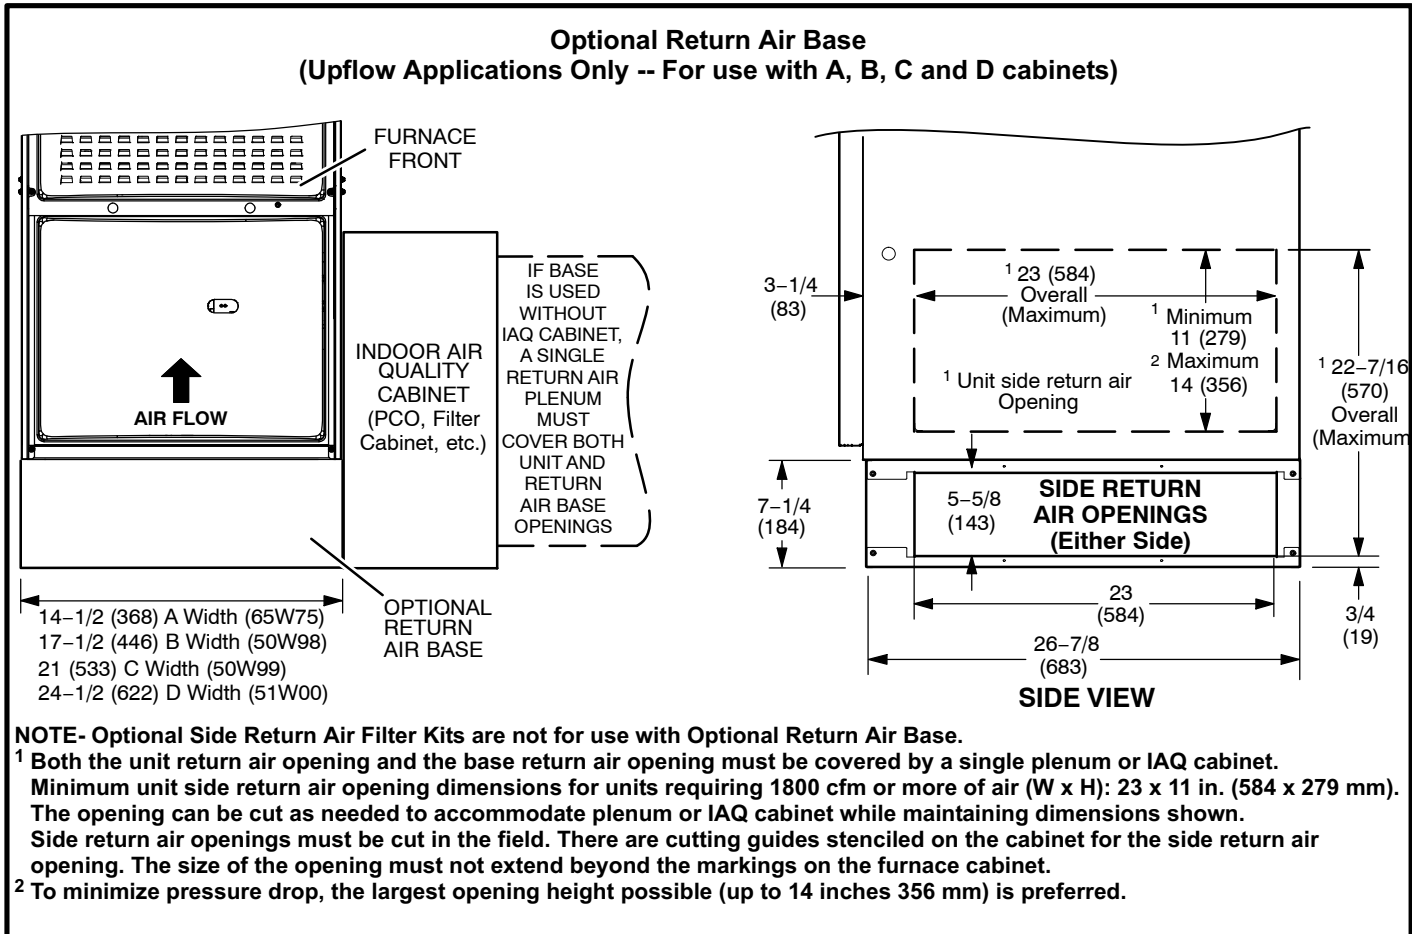

FIGURE 10
- 2 - Single side return air with optional return airbase. See figure 10.